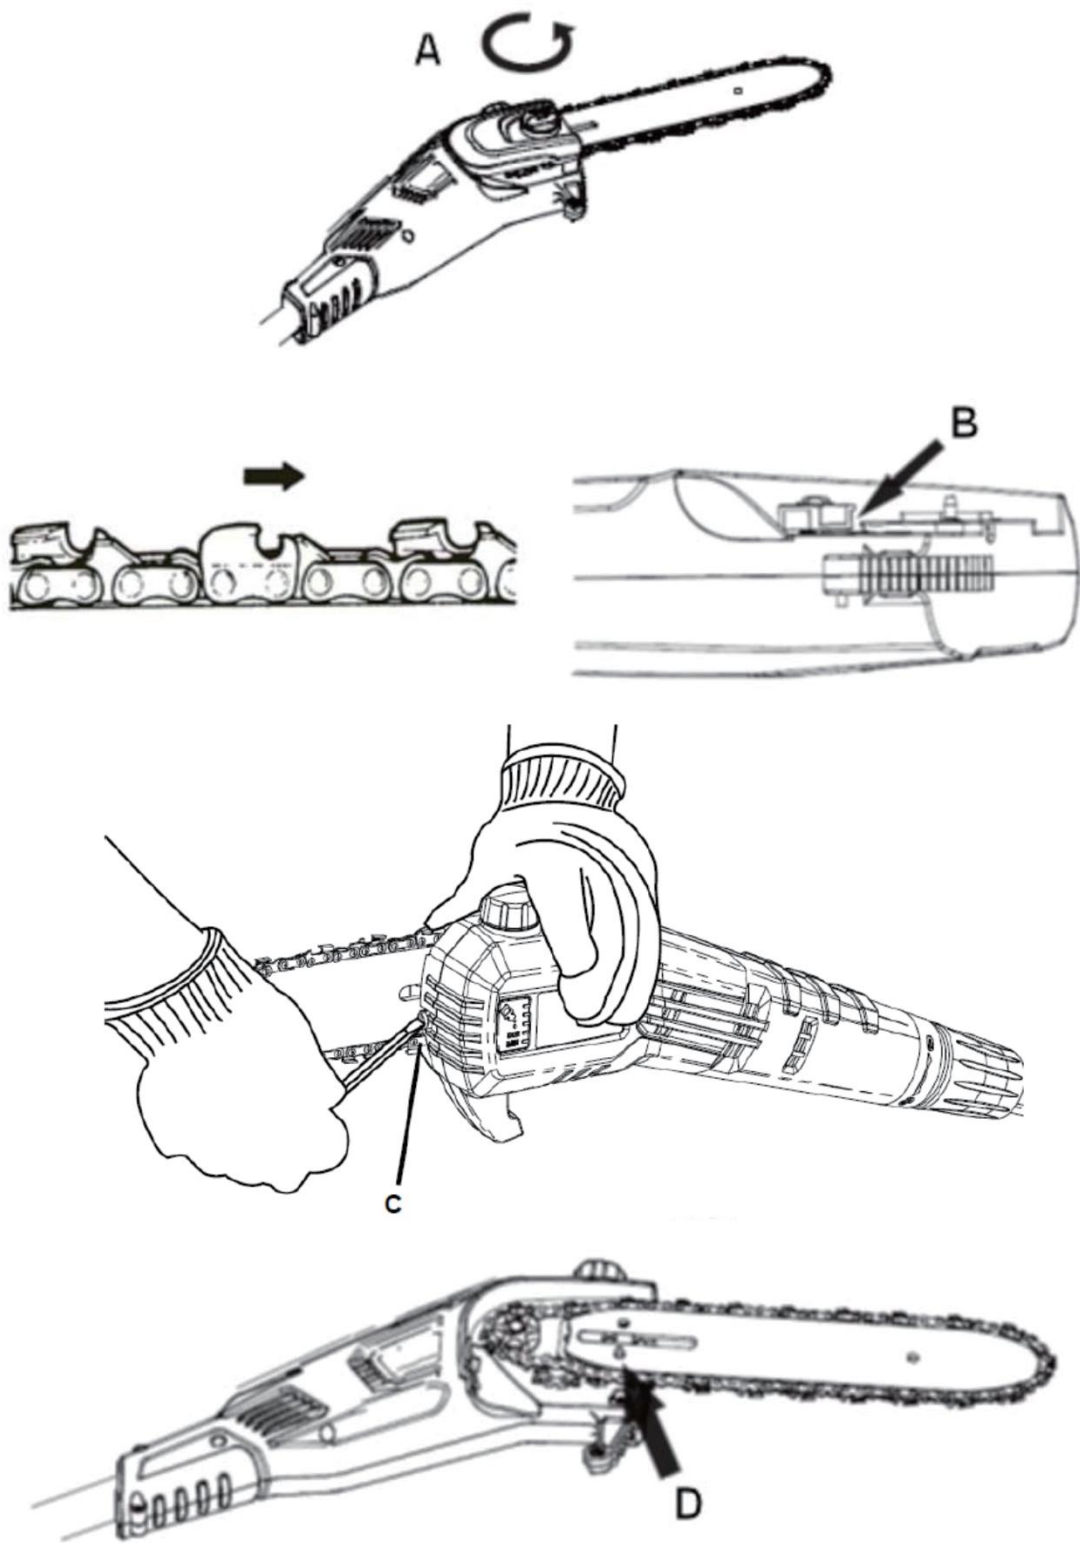

Figure 4
2. Place the saw head on any suitable flat surface with the locking wheel (6) facing up.
3. Remove the sprocket cover (10) by loosening the locking wheel.
5. Loop the chain around the sprocket, Figure 4-B, and install the guide bar onto the saw head so that the plastic part fits into the bar's slot.
6. Adjust the chain tensioning screw (12), Figure 4-C, so that the pin engages the hole in the guide bar, Figure 4-D. Use the chain tensioning screw to achieve the correct chain tension.
8. Reinstall the sprocket cover and tighten the locking wheel (6).